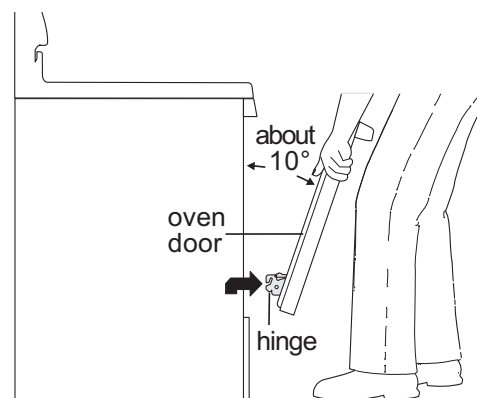

Figure 80: Broil stop position for removing door
4. Close the door to the broil stop position (Figure 80). The oven door will stop into this position just before fully closing.
5. With the oven door in the broil stop position (Figure 80), lift and carefully pull the oven door away from the oven frame. To avoid finish damage, be careful not to allow the oven door hinges to contact the oven front frame.